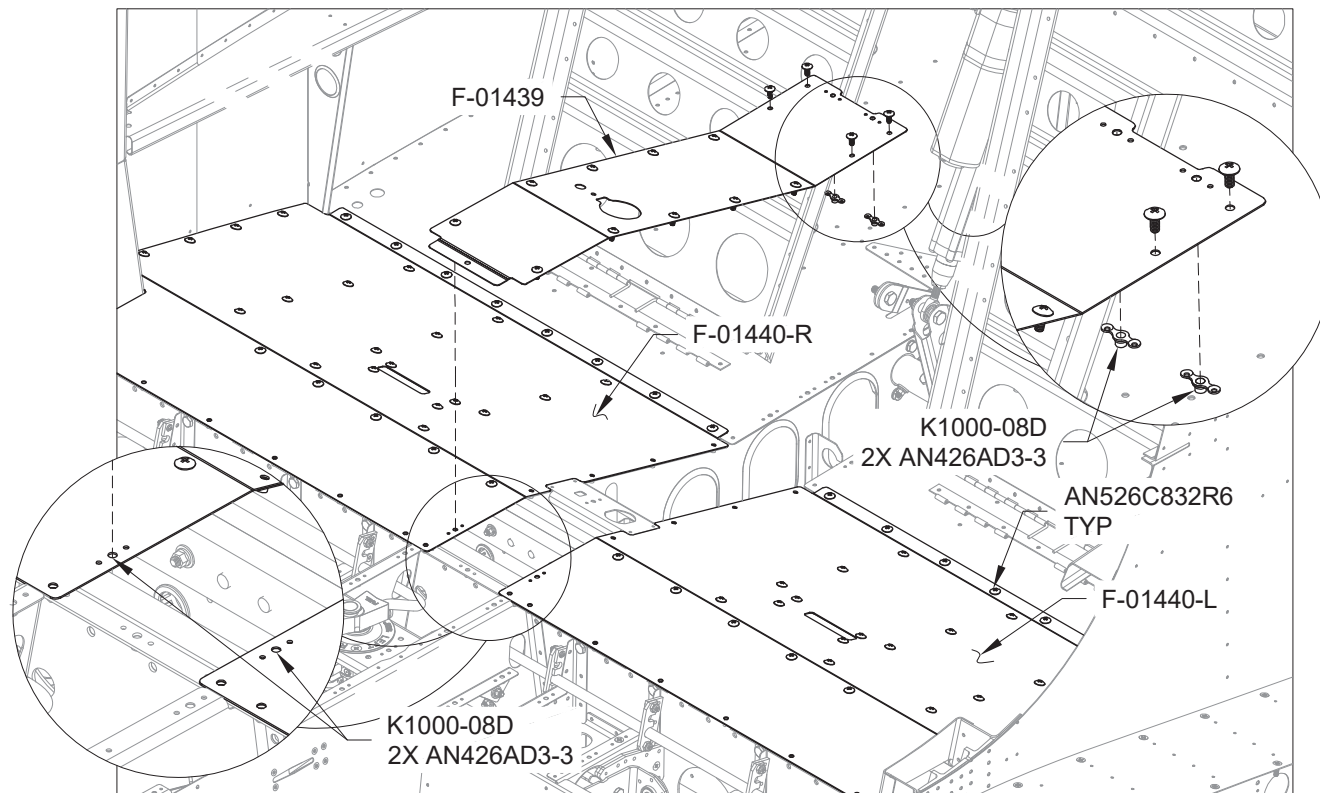

FIGURE 1: SEAT RAMP COVER INSTALLATION
Step 1: Dimple the nutplate rivet holes in the F-01440-L & -R Seat Ramps as shown in Figure 1.
Step 2: Dimple the nutplate rivet holes in the F-01439 Seat Ramp Cover as shown in Figure 1.
Rivet the nutplates to the seat ramp cover as shown in Figure 1.
Step 4: Install the F-01440-L & -R Seat Ramps and the F-01439 Seat Ramp Cover using the screws shown in Figure 1.